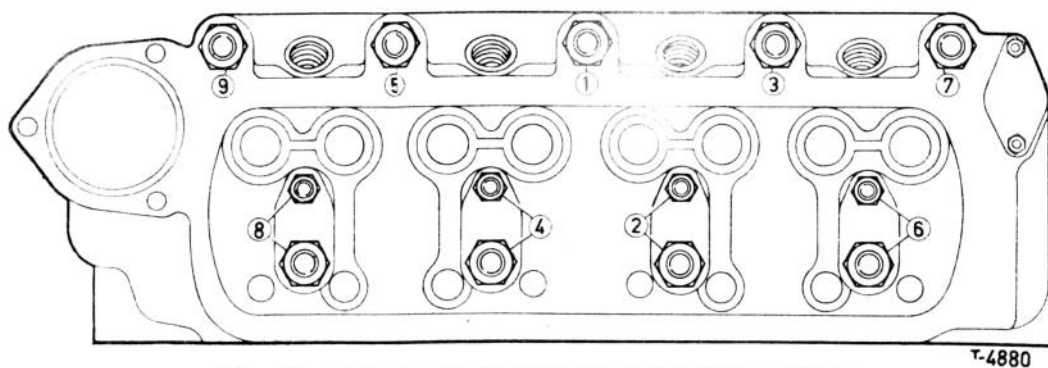

Fig. 22. Cylinder-head stud nuts, tightening sequence
Install the crankshaft primary gear with the thrust washer and measure the distance between the rear face of the primary gear and the adjoining shoulder on the crankshaft; this clearance can be adjusted by fitting a thrust washer of the required thickness with the chamfered bore facing the crankshaft. The thicknesses and corrective values of the shims are mentioned in *General Data*. Install the flywheel and clutch assembly and tighten the heavy central retaining bolt to 110–115 lb ft. Carefully install the flywheel housing and be sure to place the bolts in their original bores; tighten the bolts and nuts to 18 lb ft. Install the valve tappets in their respective bores. New valve tappets are a selective fit; when coated with light engine oil they should slide down their bores by their own weight. Install the tappet covers with new cork gaskets. Place the head gasket over the cylinder-head studs; the gasket should not be coated with sealing compound or grease of any kind. Note that the head gasket is marked 'FRONT' and 'TOP' for correct installation. Carefully lower the cylinder head into position. Insert the pushrods, replacing them in the positions from which they were removed. Replace the valve-rocker assembly and fit all securing nuts finger tight. Gradually tighten the cylinder-head nuts, a turn at a time, in the sequence given on Fig. 22 to 40 lb ft and the rocker stud nuts to 25 lb ft. Adjust the valve clearances. Further assembly of the engine is effected in reverse order of dismantling. See page 31 for ignition timing. After installation in the vehicle, do not forget to fill the engine with oil of the recommended grade, and the cooling system with water.
**Cylinder head:** NOTE: *If on an assembled engine the valve rocker shaft only is to be removed, it should be noted that all cylinder-head nuts should be loosened in the proper sequence (see Fig. 22). It is therefore essential that the cooling system be drained prior to removing the valve rocker shaft.*